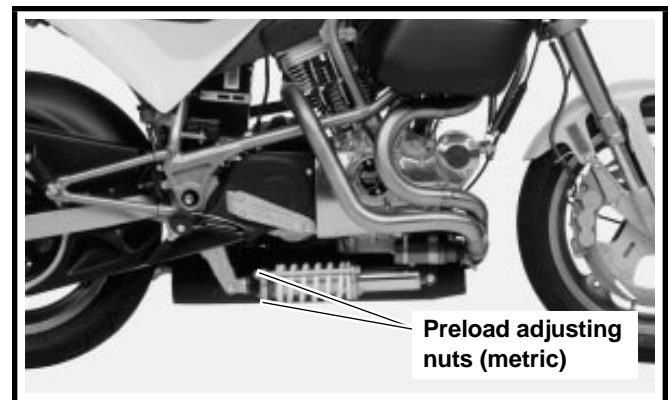

Figure 2-48. Adjusting Rear Preload
9. See Figure 2-48. Change the spring preload by adjusting the mechanical preload adjusting nuts (metric) on the rods that connect the end plates.